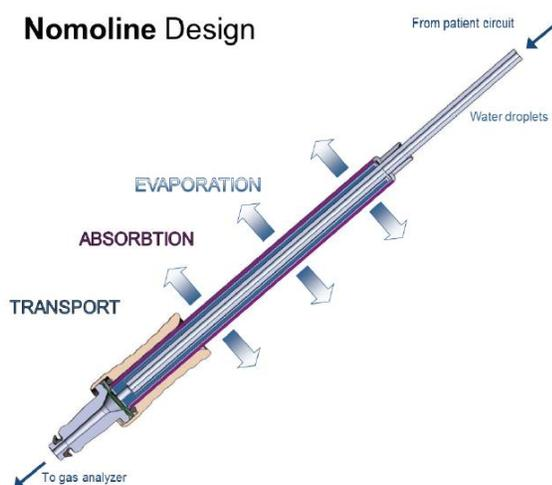

Figure 2: Nomoline Adapter
- The Nomoline fluid protection technology incorporates a standard sampling tube, a unique water separation section, the nomo section, made of a special polymer and a hydrophobic bacterial filter. Refer to Figure 2.